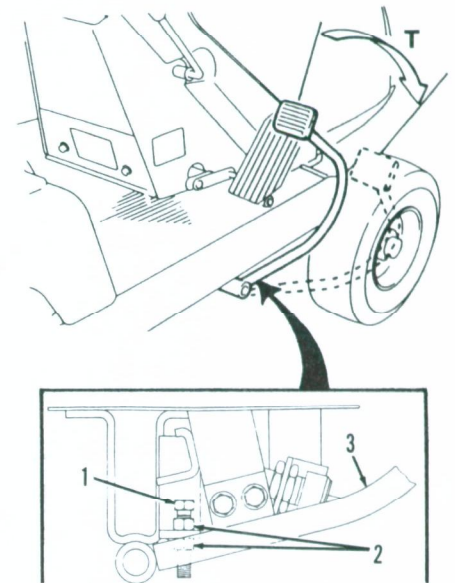

Fig. K5—Brake pedal travel (T) is set by turning adjusting screw (1). Refer to text.
ADJUSTMENT. Clutch/brake pedal travel from released (up) position to fully depressed position should be 125-130 mm (4.92-5.12 in.) on Model T1400 and 70-80 mm (2.76-3.15 in.) on Model T1400H. To adjust pedal travel, loosen locknuts (2—Fig. K5) and turn adjusting screw (1) as necessary.